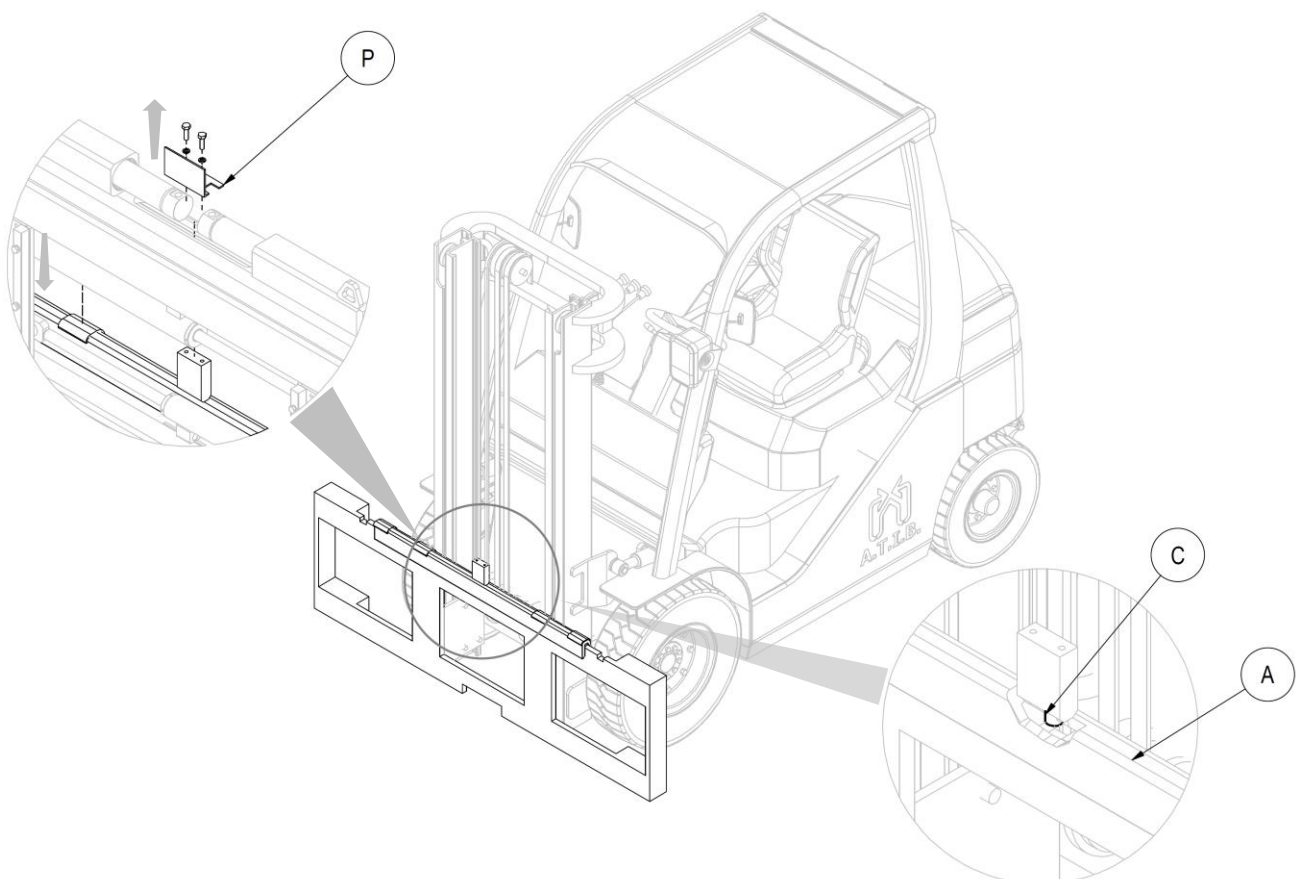

Figure 5
4. After removing the “protection bracket” (P) with its bolts, manually obtain the dual coupling A (with its sliding bushes), and position it on the upper profile of the fork carriage, taking care to fit the centring pin C into the central notch of the fork carriage (see *Figure 5*).